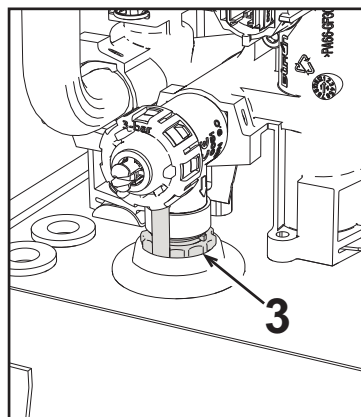

fig. 40
- Close the flow & return Isolation valves, & drain the water in the boiler "3" of fig. 40 " (see "System draining" on page 8).